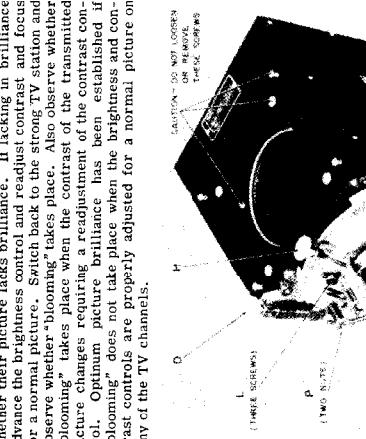

Fig. 11. PROJECTION UNIT, MECHANICAL ADJUSTMENTS
2. Loosen the four thumbscrews marked "M" in Fig. 11, which hold the mounting and alignment assembly to the optical housing of the projection unit. Rotate the assembly counter-clockwise slightly to permit its removal, and withdraw with care.
3. Loosen two screws holding the tube clamp to the tail plate. (See Fig. 11.) and while holding the tube so that its flare seats firmly against the deflection yoke, tighten the tube clamp firmly about the neck of the tube. Center the neck of the tube in the hole in the triangular tail plate and tighten the two screws holding the tube clamp to the tail plate. Check to see that the two springs contact the outer coating of the projection tube. This is very important as the outer coating must be grounded.
5. Attach the mounting and alignment assembly to the optical housing and tighten the four thumbscrews (M). If the picture is slightly tilted on the projection screen, loosen these thumbscrews again and rotate the assembly slightly as required. Re-tighten the thumbscrews.
Mechanical Adjustments - Refer to Fig. 11. for location of adjustments.